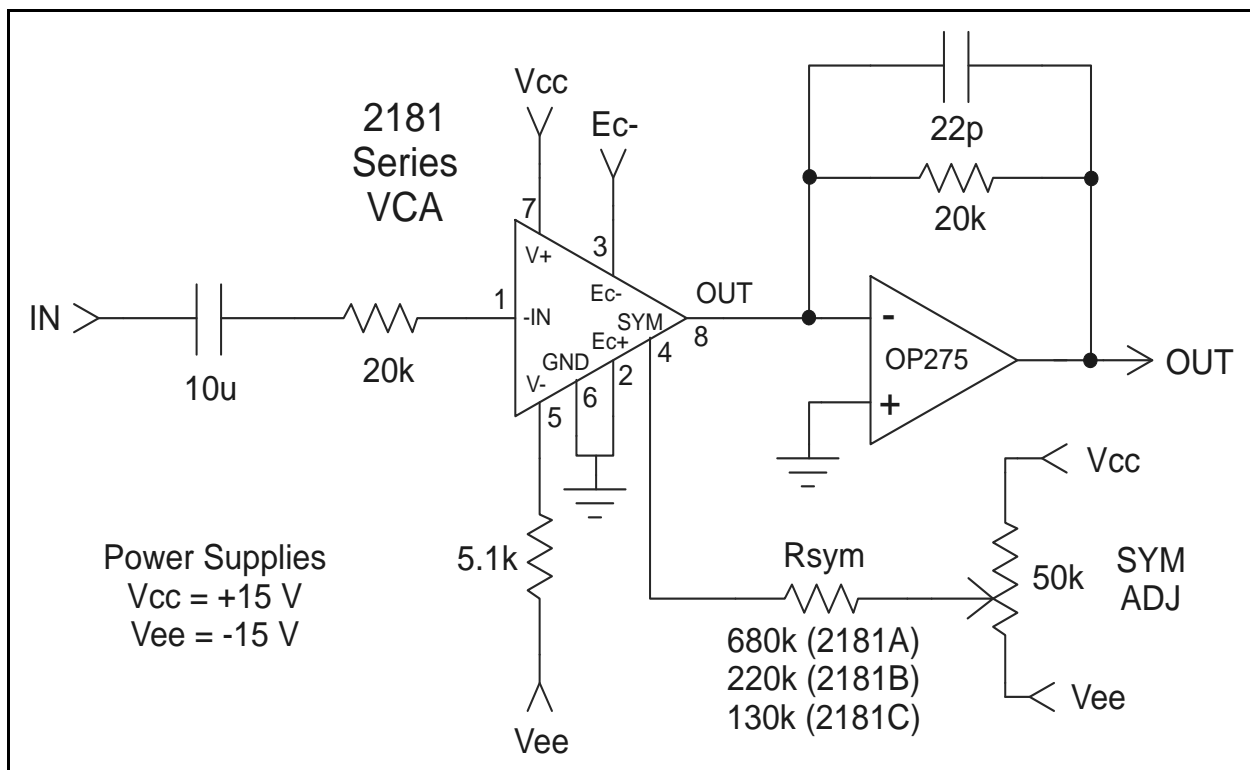
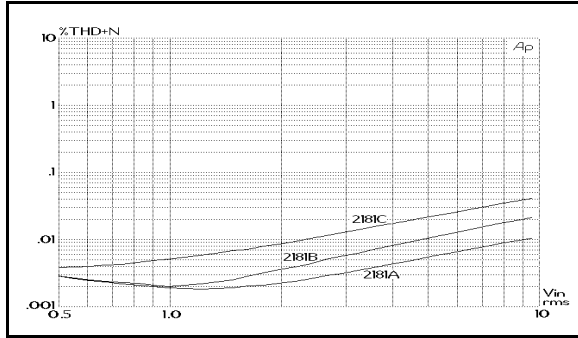
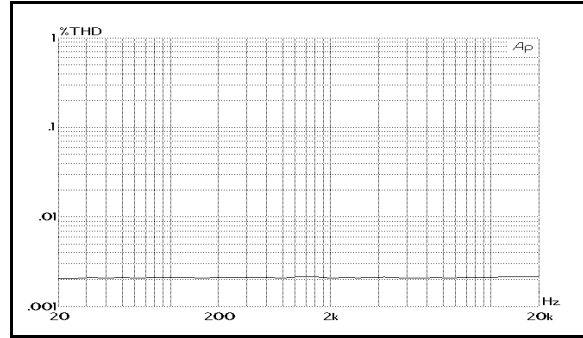
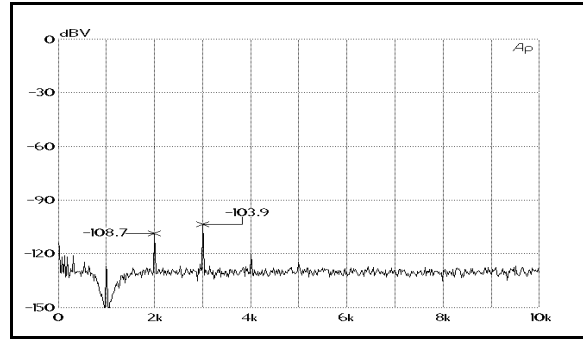

Figure 2. Typical Application Circuit
Figure 10. 1 kHz THD+Noise vs. Input Level, 0dB Gain
Figure 13. 2181A THD+N vs Frequency, 0dB gain 1kHz 1V
Figure 14. FFT of THD, Typical 2181A,
2. Unless otherwise noted, $T_A = 25^\circ\text{C}$, $V_{CC} = +15$ V, $V_{EE} = -15$ V. Test circuit as shown in Figure 2. SYM ADJ is adjusted for minimum THD at 1 V, 1 kHz, $E_C = -E_{C+} = 0$ V.
In normal operation, the output current is converted to a voltage via an opamp-based I-V converter, as shown in Figure 2, where the conversion ratio is determined by the feedback resistor connected between the output and inverting input. The signal path through the VCA and the output opamp is non-inverting.
The 2181-Series VCAs are intended to be adjusted for minimum distortion by applying a small variable offset voltage to pin 4, the SYM pin. Note that there is a 25 Ω resistor internal to the 2181 between pin 4 and pin 2. As shown in Figure 2, Page 3, the usual method of applying this offset is to use the internal 25 Ω resistor along with a larger value resistor to form a voltage divider connected to the wiper of a trim pot across the supply rails.
The 2181-Series VCA design, fabrication and testing ensure extremely good audio performance when used as recommended. The 2181 maintains low distortion over a wide range of gain, cut and signal levels. Figures 10 through 12 show typical distortion performance for representative samples of each grade of the part. At or near unity gain, the 2181 behaves much like a good opamp, with low distortion over the entire audio band. Figure 13 shows typical THD for a 2181A over frequency at 0 dB gain, with a 1 V input signal, while Figure 14 details the harmonic content of the distortion in a typical A-grade part.
The Input pin (pin 1) is a virtual ground with negative feedback provided internally (see Figure 5, Page 4). The input resistor (shown as 20 k Ω in Figure 2, Page 3) should be scaled to convert the available ac input voltage to a current within the linear range of the device. Generally, peak input currents should be kept under 1 mA for best distortion performance.
Refer to Figures 10 through 12 to see how distortion varies with signal level for the three parts in the 2181 Series for 0 dB, +15 dB and -15 dB gain. The circuit of Figure 2, Page 3 was used to generate these curves.
A designer may trade off noise for distortion by decreasing the 20 k Ω current-to-voltage converting resistors used at the input and output in Figure 2, Page 3. For every dB these resistor values are decreased, the voltage noise at the output of the OP275 is reduced by one dB. For example, with 10 k Ω resistors, the output noise floor drops to -104 dBV (typical) at 0 dB gain — a 6 dB reduction in noise because 10 k Ω is 1/2 of (6 dB lower than) 20 k Ω .
The Output pin (pin 8) is intended to be connected to a virtual ground node, so that current flowing in it may be converted to a voltage (see Figures 2 & 15). Choose the external opamp for good audio performance. The feedback resistor should be chosen based on the desired current-to-voltage conversion constant. Since the input resistor determines the voltage-to-current conversion at the input,
The SYM pin (pin 4) is actually a sort of additional positive-sense control port. It is provided to allow V_{be} mismatches in the core transistors to be adjusted after packaging and installation in the circuit board. It should only be used for this purpose. Connect pin 4 only to a high-impedance source as shown in Figures 2 and 15.